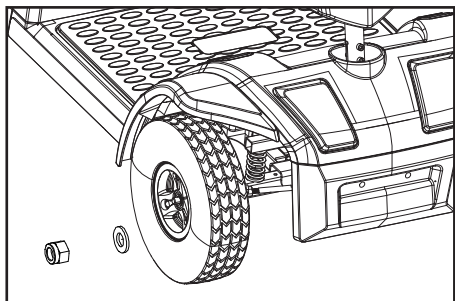

Figure 20
- Place the lug nuts back onto the studs and tighten them (see figure 20 and 21).